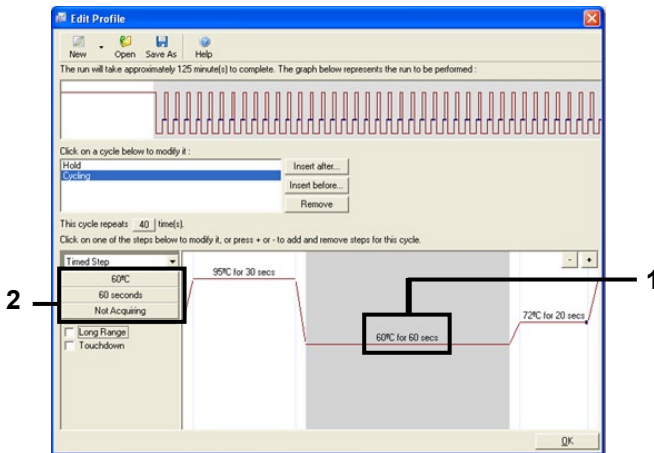

Figure 7. Cycling step at 60°C. (1 = Step two: temperature and time setting; 2 = "Not Acquiring.")
9. Highlight the second step and set to **60°C for 60 seconds**. Click **Not Acquiring** to enable data acquisition during this step (Figure 7).